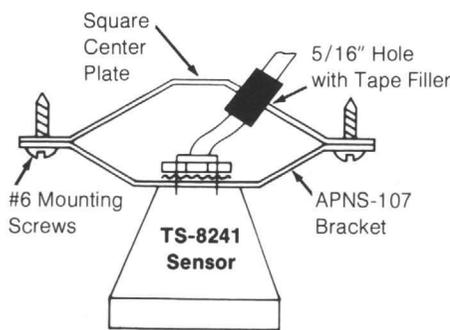
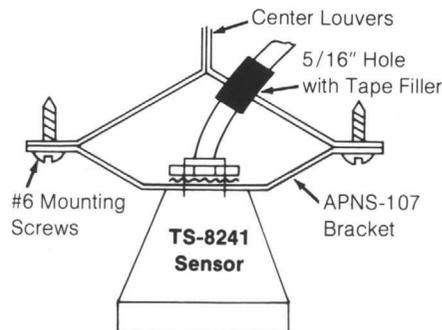

Figure 3
Figure 4
- a. Fig. 3. Locate hole center on an angled surface about 5/16" from an edge of the 1/2" square so as to avoid drill contact with the welded center plate mounting brackets.
- b. Fig. 4. Locate the hole center on one louver about 5/16" from junction of two center back to back louvers.
- a. Fig. 3. Drill two holes near edges of square center plate.
- b. Fig. 4. Drill two holes, one each on bottom edge of back to back louvers.
4. Assemble the sensor to APNS-107 bracket as shown in Figs. 3, 4, and 5.
6. Attach APNS-107 as shown in Figs. 3, 4, and 5 using #6 screws.
0	Fig. 3 Fig. 4
3	Fig. 4